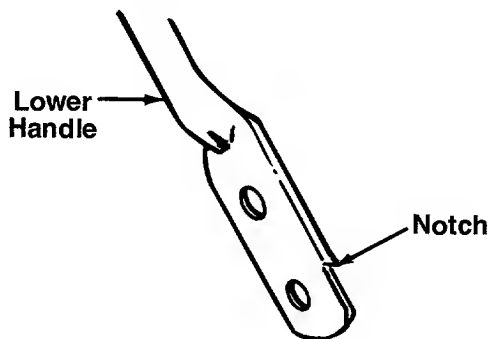

FIGURE 8.
4. Turn the lower handle around so the notches on the lower handle are facing forward as shown in figure 8. Reassemble, placing the bottom holes in the handle over the weld pins in the handle mounting bracket.